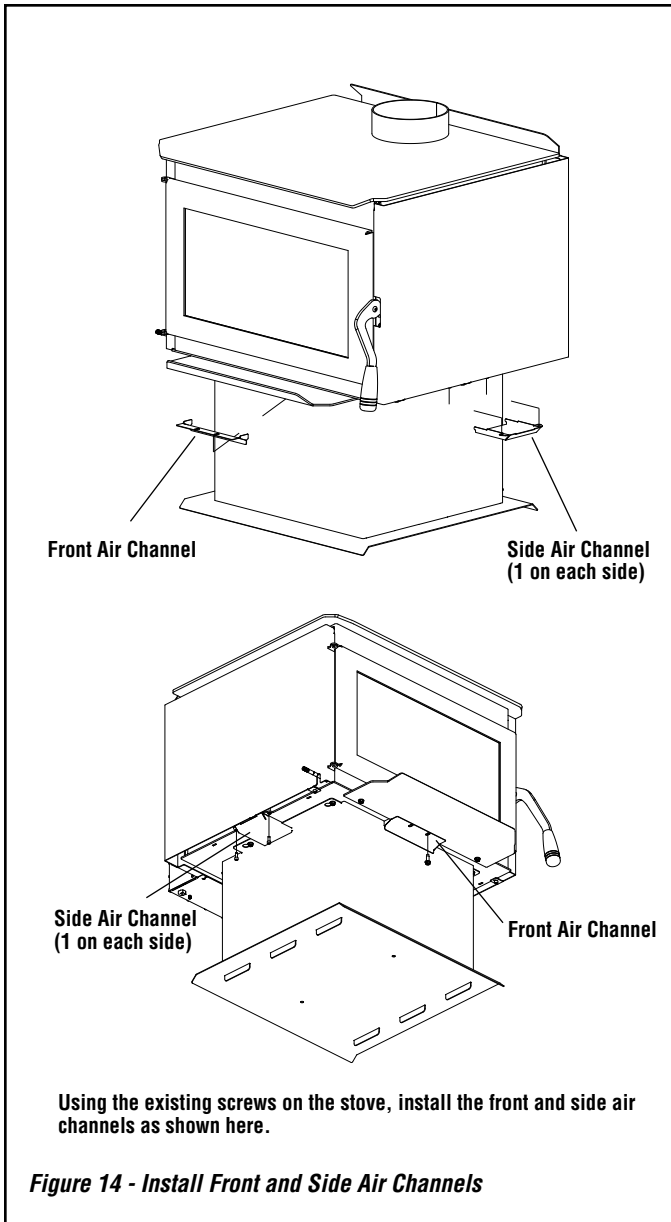

Figure 14 - Install Front and Side Air Channels
5. **Install Front and Side Air Channels** - Install the front and side air channels per the instructions in **Figure 14** on **Page 13**.